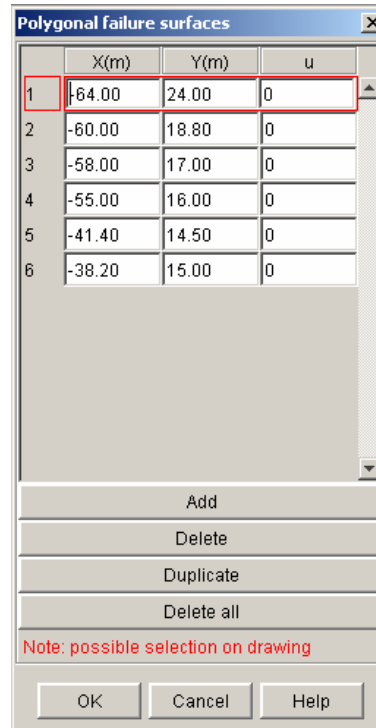
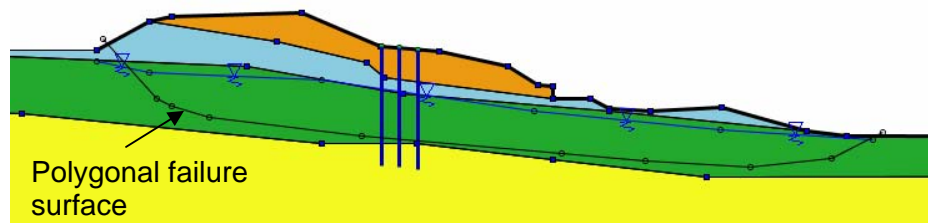

Figure 101: failure surfaces dialog box: polygonal failure surfaces
Figure 102: example of graphical display for polygonal failure surfaces
Select "Polygonal surfaces" (Figure 102), and click on the “Define failure surface” button. The dialogue box of Figure 101 is displayed.
The polygonal failure surface is represented by a thin black line, with black points (Figure 102).
- The polygonal failure surfaces should be defined so that the first and the last points are outside the slope boundary, and so that the 2nd and the next-to-last points are below the slope boundary (Figure 102).